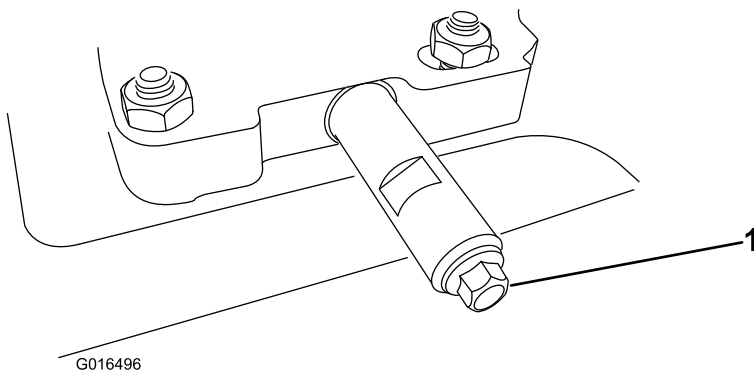

Figure 32
2. Clean the area around the oil-drain cap (Figure 32).